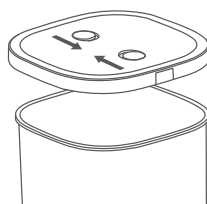

Figure 2
• **Installation of the food barrel lid.** Hold the lid opening parts with two fingers, press the lid opening parts inwards as shown in the figure, and simultaneously push it downwards on the food barrel. (Figure 2)